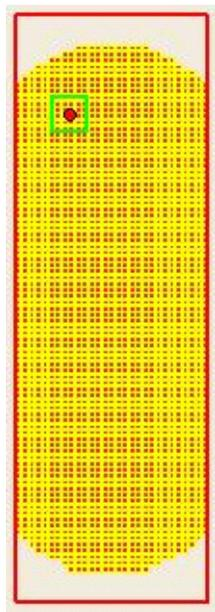

Figure 71 Use the mouse to drag the green-box cursor and to move the flowcell stage the same way.
4. Use the mouse to drag the green-box cursor to a position on the upper-left side of the slide. Dragging the green-box cursor moves the flowcell stage to that corner of the slide (see Figure 71 on page 108).